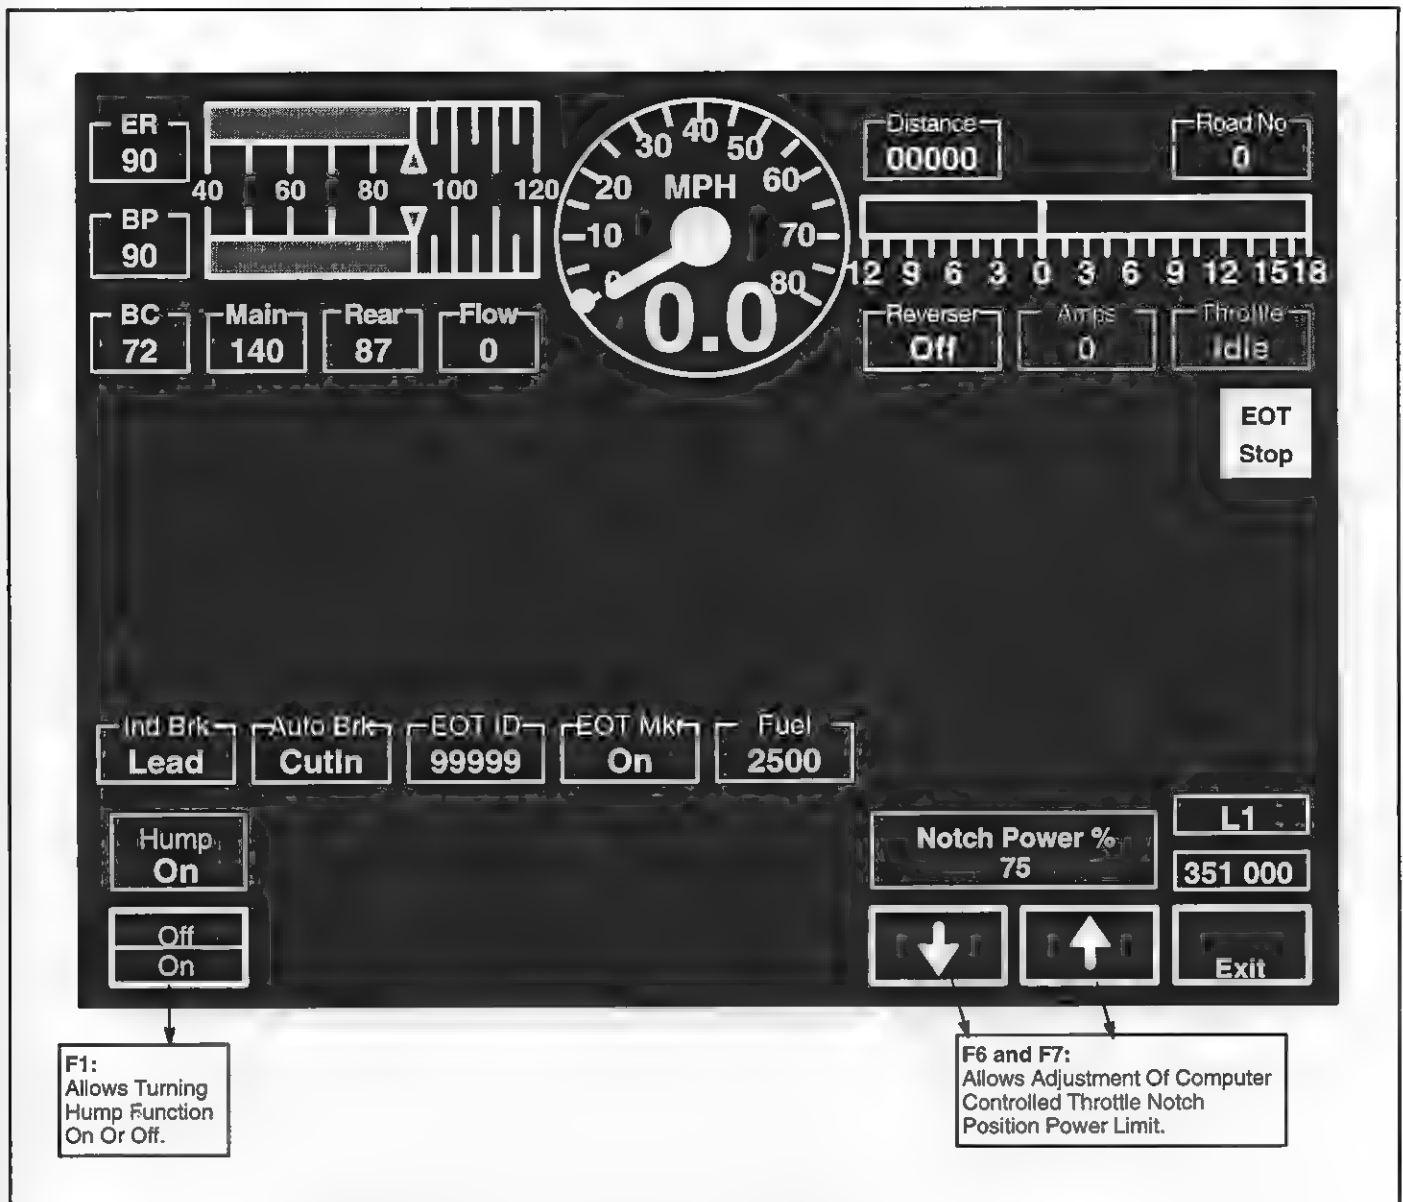

FIG. 43. HUMP CONTROL SCREEN (351 000). E-43466.
1. Pressing key position F1 (**Hump Control**) will bring up screen 351 000 (Hump Control – see Fig. 43). This key is active at any speed. Four keys are active on this screen as follows: